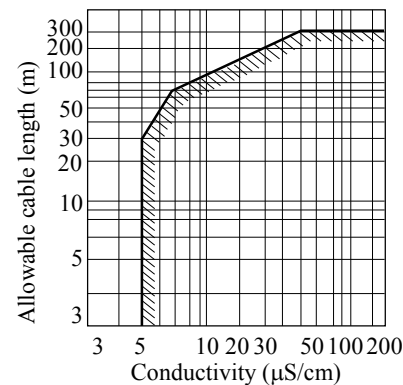

Figure 8. Electrical Conductivity and Cable Length
- (1) Explosion proof type flowmeters are not provided cable glands. Refer to the part Cable connection port at detector and converter.
- (2) Connect the grounding wire (IV wire 5.5mm² or more) to a good earth ground (100Ω or less ground resistance). Make the wire as short as possible. Do not use a common ground shared with other equipment where earth current may flow. An independent earth ground is recommended.
- (3) The allowable cable lengths between the detector and converter for the separate type flowmeter depend on the electrical conductivity of the object fluid. See Figure 8.
- (4) DO1, DO2, and DI use the same common terminal (COM). This COM can not connect to other equipments which have their own ground terminal. (Power supply for connecting to DI or DO, etc...) Need to wire separately.